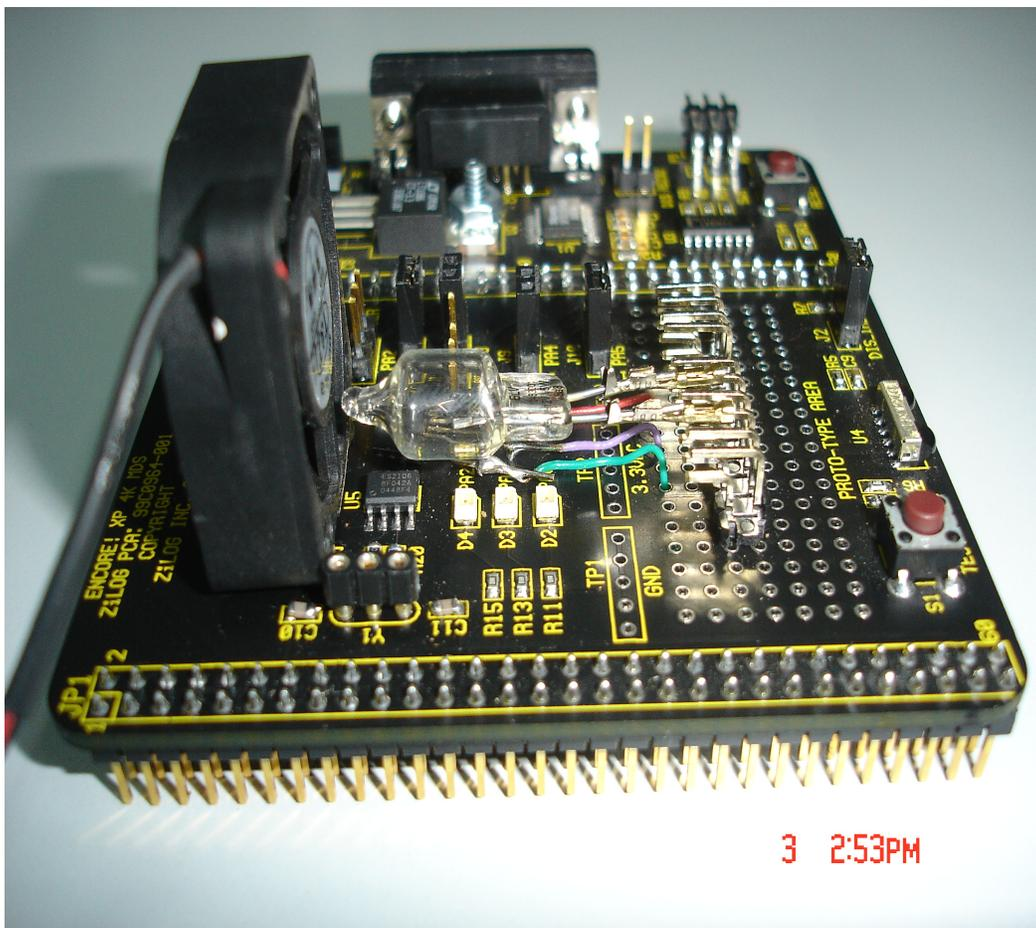
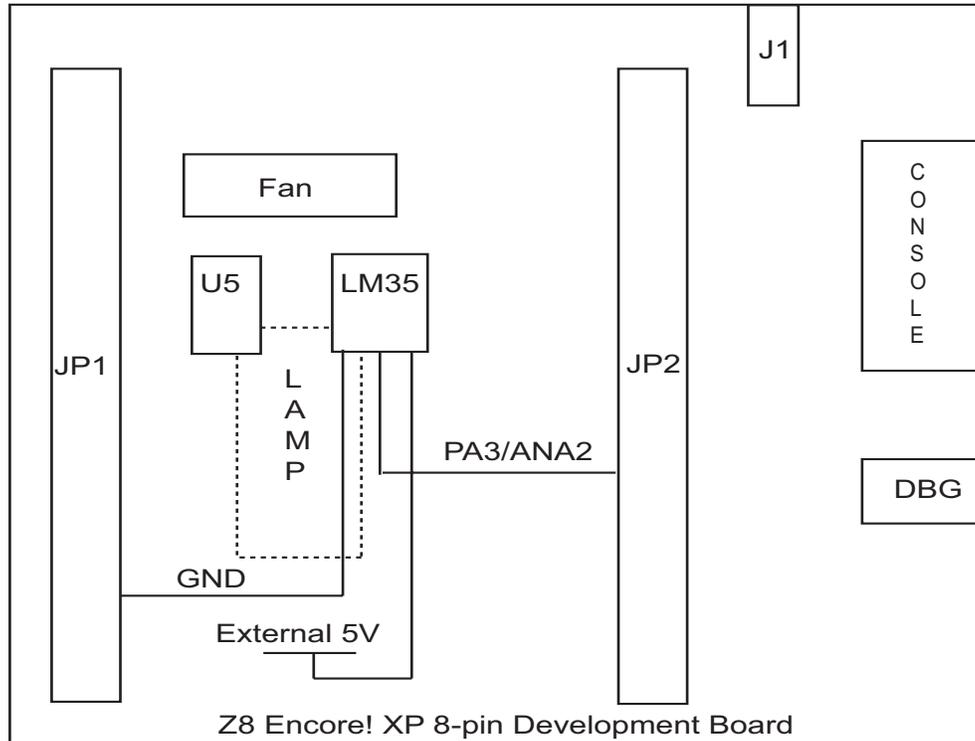

Figure 1. Hardware Setup with Lamp and Fan Mounted
Figure 4. Z8 Encore! XP® 8-Pin Development Board with LM35, Lamp, and Fan Mounting
For heating and cooling, a lamp and a fan are provided. Figure 1 displays the hardware setup with lamp and fan mounted. Figure 4 on page 6 displays the block diagram of the hardware setup.
1. Connect the external temperature sensor LM35 to the Z8 Encore! XP® Development board, as displayed in Figure 4 on page 6. The lamp and fan operate on external 9 V supply; while the LM35 operates on external 5 V supply.